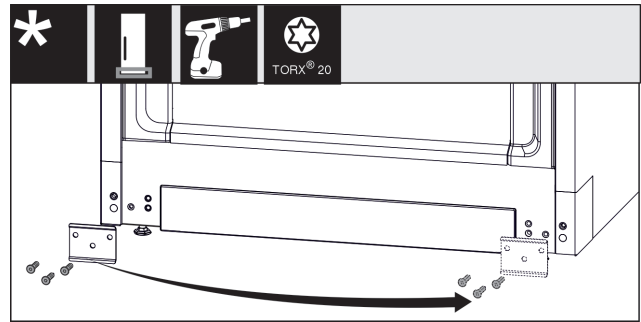

Fig. 28
- Unscrew the plate Fig. 28 (1), move it to the other side and screw it back on.